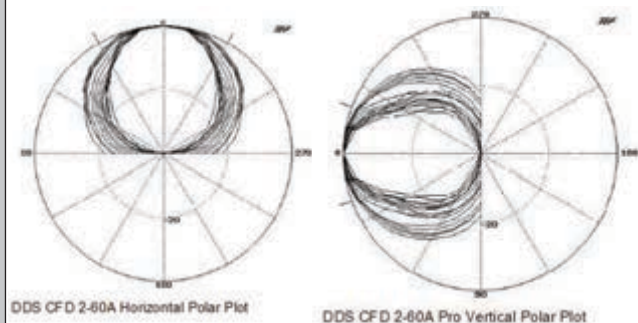

Figure 15: Horizontal and vertical polar plots for the DDS CFD 2-60a 2" horn
The horn that was provided this month for the BMS coaxial compression driver came from the folks at Design Direct Sound (DDS), who make a complete line of fiberglass horns. For the BMS 4592ND, DDS provided me with their CFD 2-60A Pro 2" horn. The CFD 2-60A Pro is a smaller format 60° × 40° horn designed for applications where large size 60° horns will not fit. (See **Figure 15** for the horizontal and vertical 1/3 octave polar plots for the DDS CFD 2-60A horn.) Specifications include a 1 kHz to 18 kHz frequency range, 113.9-dB sensitivity, nominal gain of +5.9 dB, and a directivity factor (Q) of 15.7 (+2.4–3.7).